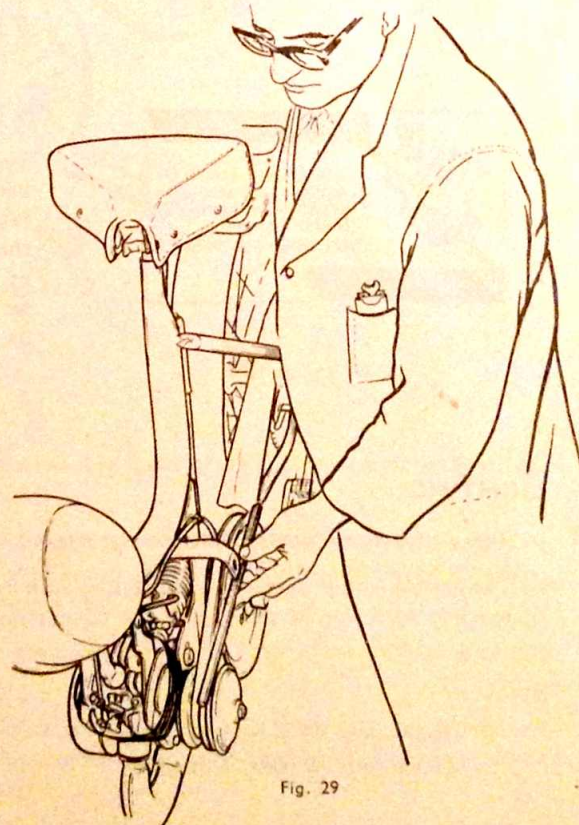

Fig. 29
5. Apply a rule against the rim of the large pulley. The belt should be parallel to the rule (see fig. 29).
6. Tighten the top bolt (C).